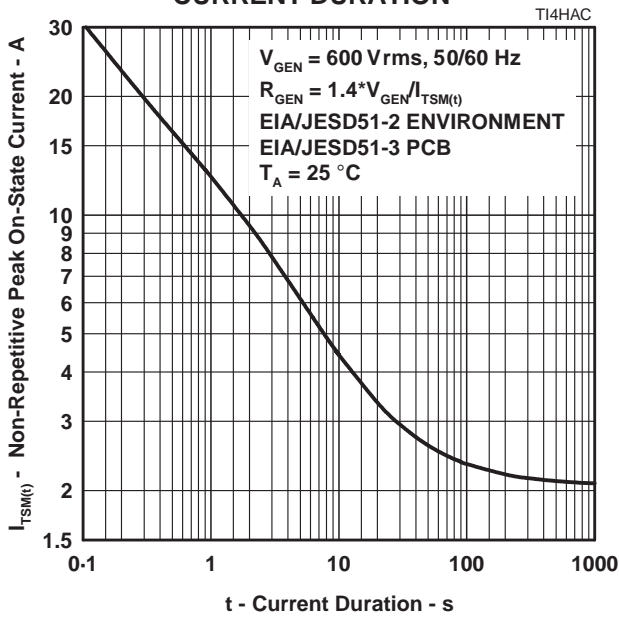

Figure 6.
4. EIA/JESD51-2 environment and EIA/JESD51-3 PCB with standard footprint dimensions connected with 5 A rated printed wiring track widths. See Figure 6 for the current ratings at other durations. Derate current values at  $-0.61\text{ }^\circ\text{C}$  for ambient temperatures above  $25\text{ }^\circ\text{C}$ .